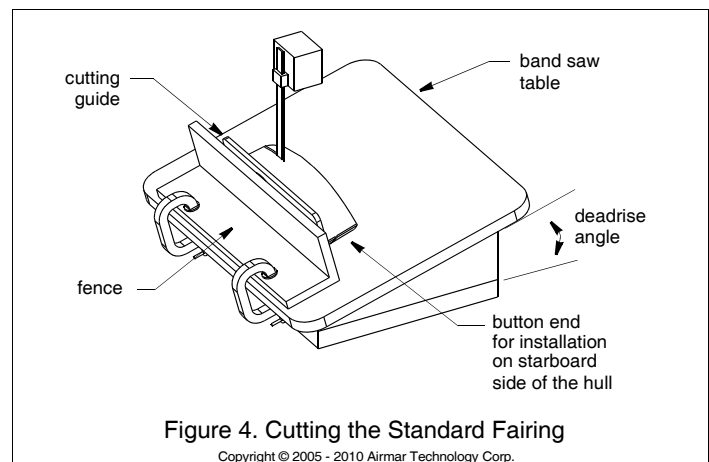

Figure 4. Cutting the Standard Fairing
2. Tilt the band saw table to the measured angle and secure the cutting fence (see Figure 4).